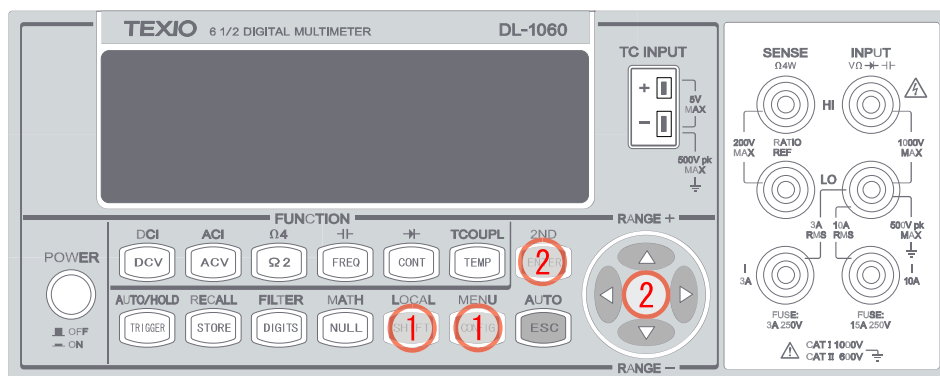

Figure 3-1
1. Press SHIFT+CONFIG buttons as shown in **Figure 3-1**.